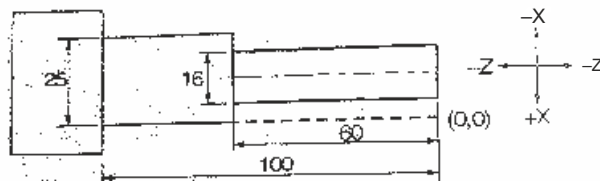

Fig 1
- Q.32 Prepare a Part program for following turning operation as shows in Fig 1